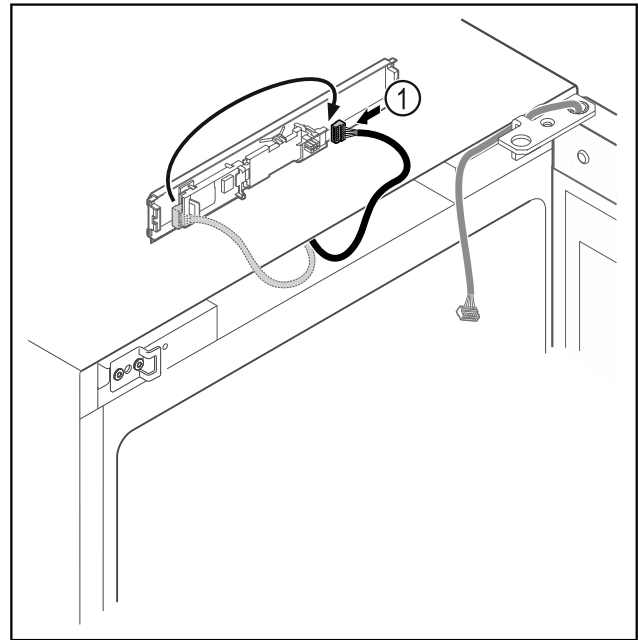

Fig. 8
- ▶ Connect the plug *Fig. 8 (1)* to the circuit board.